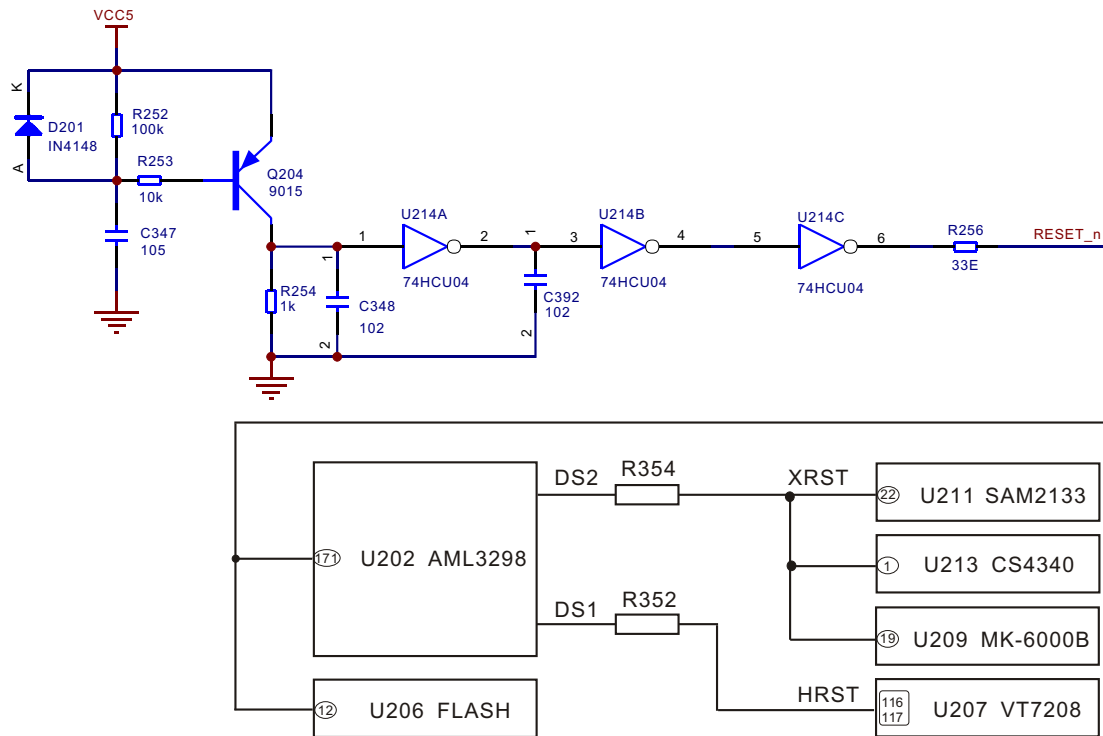

Figure 3.2.6.1 Reset circuit diagram
1. Reset circuit one is shown as the following figure 3.2.6.1: